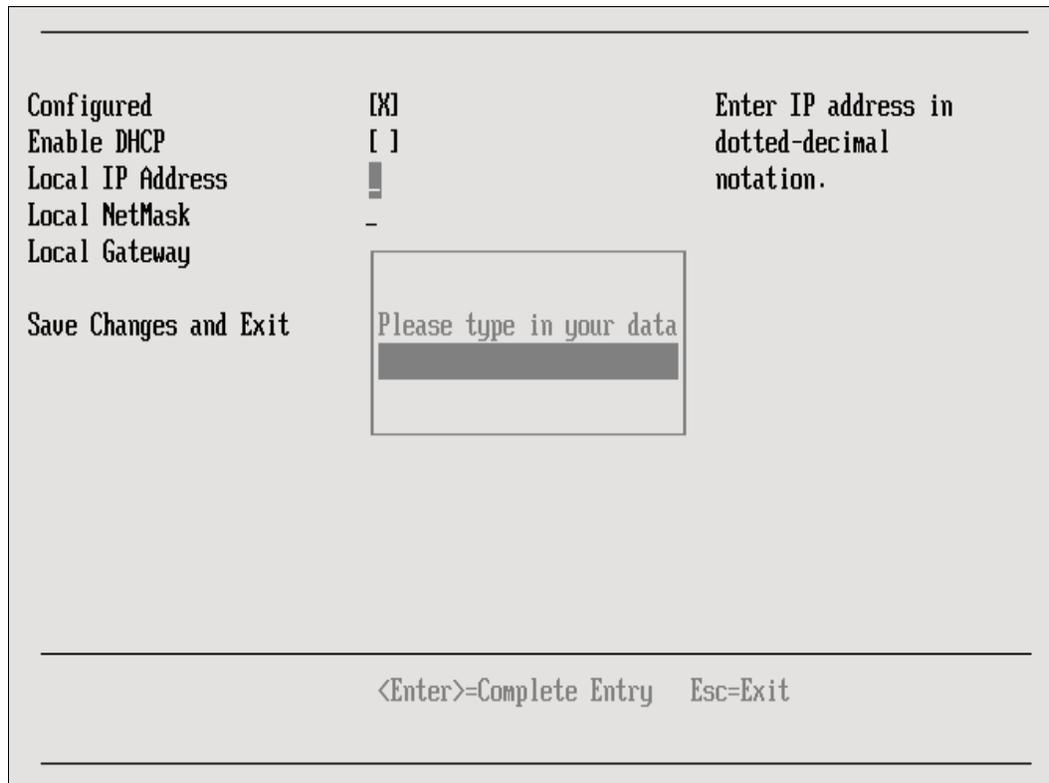

Figure 3-33 IPv4 setting
2. Use the arrow-down key to select the IPv4 Network Configuration or IPv6 Network Configuration to assign the IP settings to the adapter. Figure 3-33 shows the IPv4 configuration.